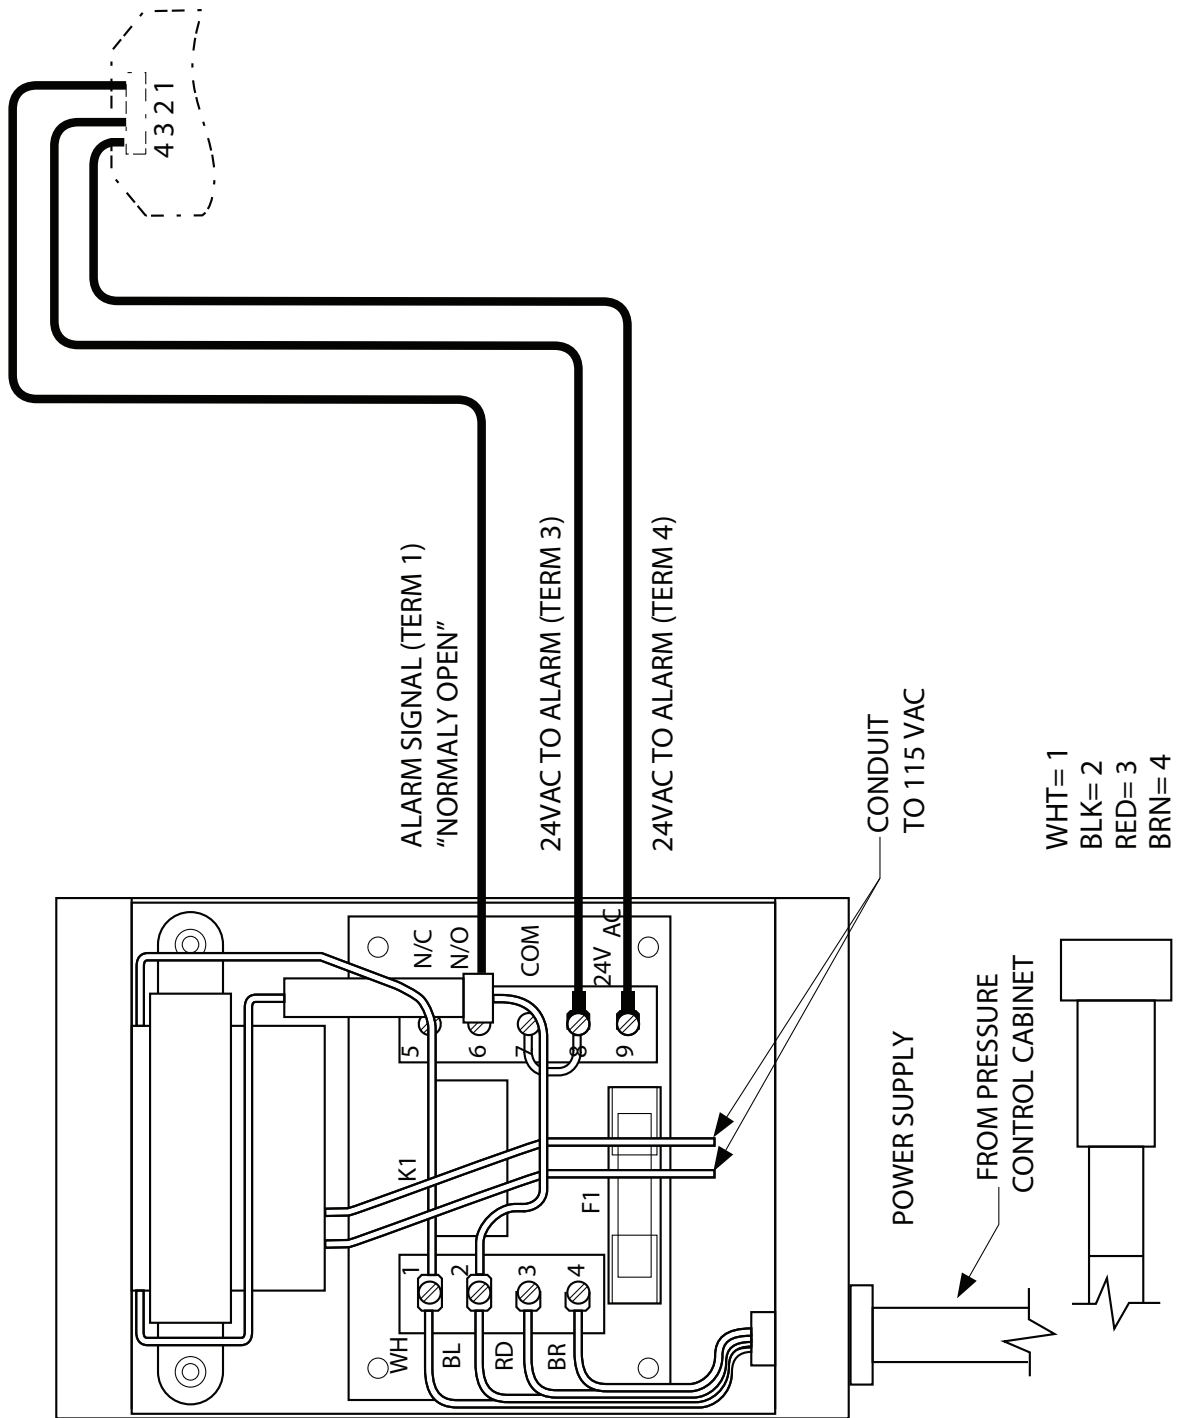

Figure 6: Remote Alarm Wiring
7. Mount the power supply in a location convenient to the pressure control cabinet. Using conduit connect 115 VAC power wiring to the free leads of the power supply as shown in electrical drawing (Figure 6).
8. For remote alarm electrical connection, use electrical wiring drawing shown in Figure 6.